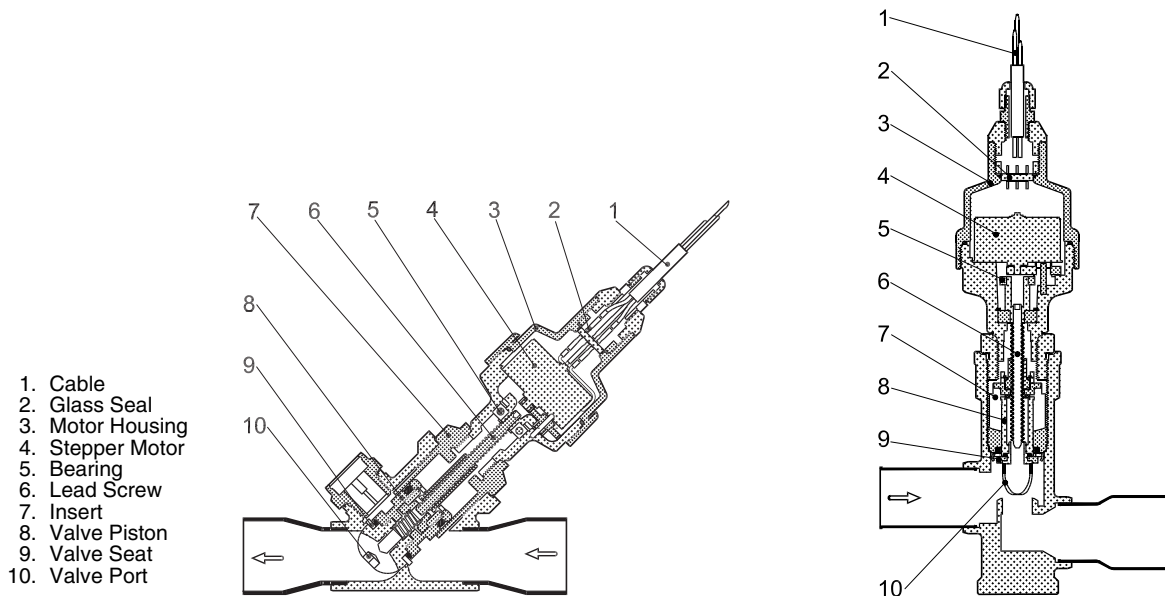

Fig. 53 — Cutaway Views of the Electronic Expansion Valve
Electronic Expansion Valve (EXV) — See Fig. 53 for a cutaway view of the EXV. High-pressure liquid refrigerant enters the valve through the top. As refrigerant passes through the orifice, pressure drops and refrigerant changes to a 2-phase condition (liquid and vapor). The electronic expansion valve operates through electronically controlled activation of a stepper motor. The stepper motor stays in position unless power pulses initiate the two discrete sets of motor stator windings for rotation in either direction. The direction depends on the phase relationship of the power pulses. The motor directly operates the spindle, which has rotating movements that are transformed into linear motion by the transmission in the cage assembly. The valve cone is a V-port type which includes a positive shut-off when closed. The large number of steps and long stroke results in very accurate control of the refrigerant flow. The stepper motor has either 3810 (main) or 2625 (economizer) steps.
2. The expansion valve motor is hermetically sealed inside the top portion of the valve. See Fig. 53. Disconnect the EXV plug. Carefully unscrew the motor portion from the body of the valve. The EXV operator will come out with the motor portion of the device. Reconnect the EXV plug.
Circuit B EXV Position or Economizer EXVs: EXV Eco Position Cir A, EXV Eco Position Cir B. Change the position to 100%. Observe the operation of the lead screw. See Fig. 53. Motor actuator movement should be smooth and uniform from fully closed to fully open position. Select 0% and check open to closed operation. If the valve is properly connected to the processor and receiving correct signals, yet does not operate as described above, the sealed motor portion of the valve should be replaced.